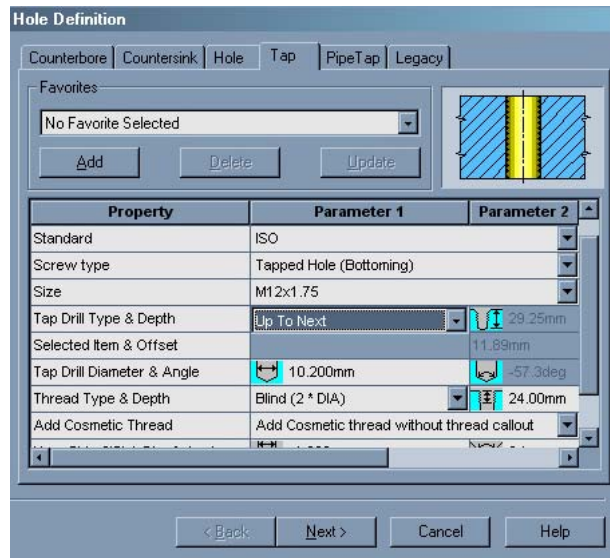

Figure 32 Top hole definition.
42. Select the parameters as shown in Figure 32. Click **Next**.